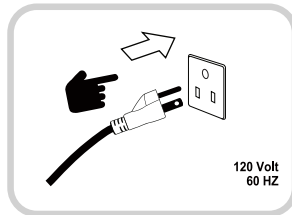

Fig. 8
9. Connect to the power supply. This product runs on 120 Volt AC, 60 Hz current. Do not plug this product to 220V current. (Fig. 8).